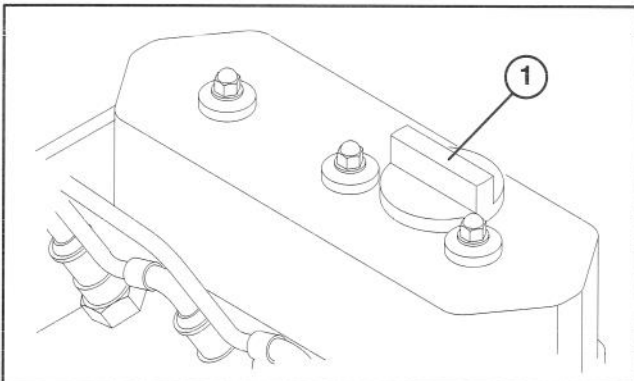

Figure 9
3. If oil level is low, remove oil fill cap (Fig. 9) and gradually add small quantities of oil, checking level frequently, until level reaches FULL mark on dipstick.